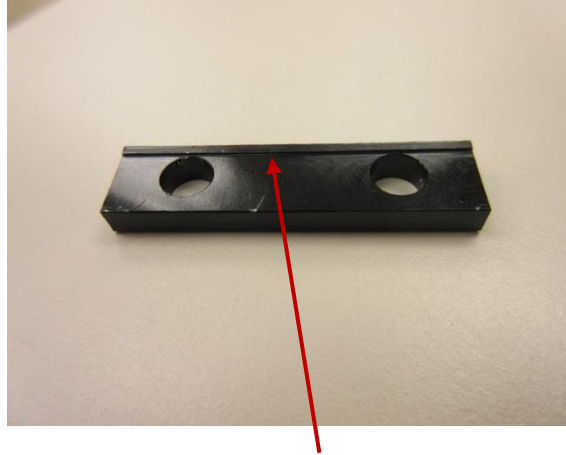

Figure 5.2.2 *Showing lip on back (blade) side of clamp*
- Note that the back of the blade clamp has a lip. This must be facing toward blade when re-installing to properly hold the blade. **Figure 5.2.2**